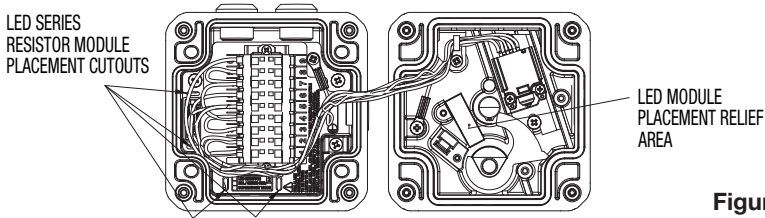

Figure 35
- c. Notice the rectangular relief (fig. 35) within the inside housing wall where the previous LED module was seated. Place the replacement LED module within the same relief and tighten in place with the same screw previously taken out.